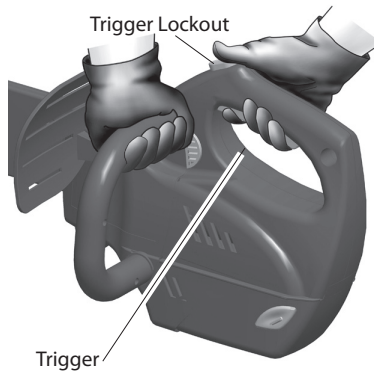

Figure 13 - Trigger Lockout and Trigger Location
- Use both hands to grip saw. Always use left hand to grip front handle and right hand to grip rear handle. Use firm grip. Thumbs and fingers must wrap around saw handles (see Figure 13).
- When ready to make a cut, press in trigger lockout with right thumb and squeeze trigger (see Figure 13). This will turn saw on. Releasing trigger will turn saw off. Always turn saw on before contacting saw chain with log.